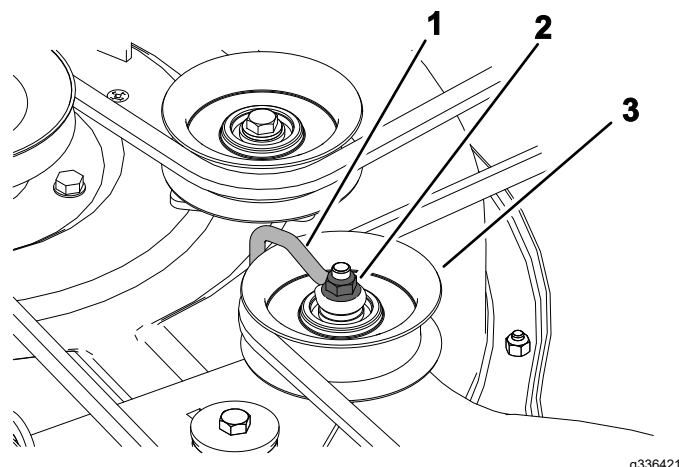

Figure 50
2. Screw (3)
5. Loosen the nut securing the wire form to the idler pulley (Figure 50).
**Note:** Position the wire form against the idler arm as shown in Figure 50.